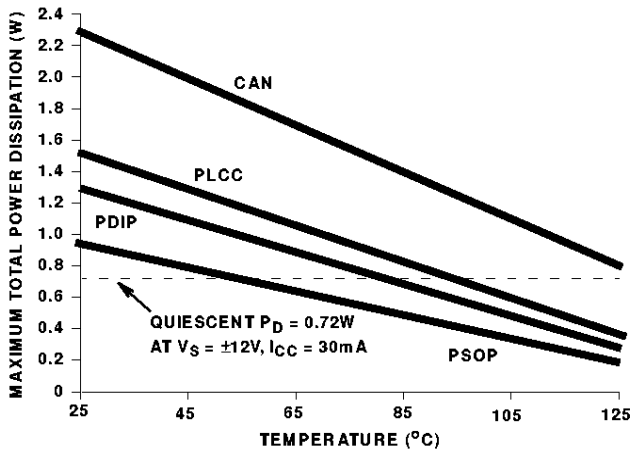

FIGURE 5. FREE AIR POWER DISSIPATION
- Maximum power dissipation, including load conditions, must be designed to maintain the maximum junction temperature below 175°C for the metal can package, and below 150°C for the plastic packages (See Figure 5.).
- Maximum operating temperature in the PSOP package is limited to 60°C, for  $V_{SUPPLY} = \pm 12V$  to prevent the junction temperature from exceeding 150°C. The maximum operating temperature may have to be derated further, depending on the output load condition. The operating temperature may be increased if the HA9P5033 is operated at lower  $V_{SUPPLY}$ . For example, the quiescent operating temperature may be increased to 75°C by operating at  $V_{SUPPLY} \leq \pm 9.7V$ . See Figure 5 for more information.